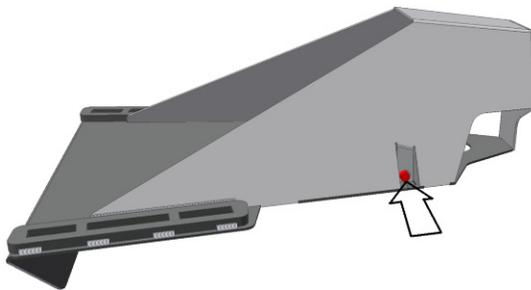

Figure 11: Bend Rainflap Hinge Tab
3. Bend the hinge tab inward over the rainflap rod until the hinge tab fits securely in the detent groove on the backside of the sensor bracket. (**Figure 11**)